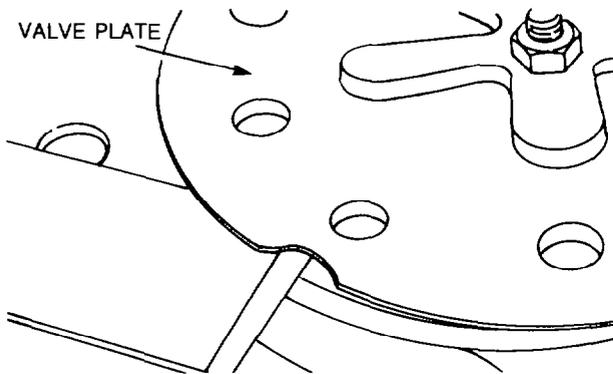

Figure 31 — Valve Plate — Removal
- o. Remove the two gaskets and the valve plate from the compressor housing (see Fig. 31).